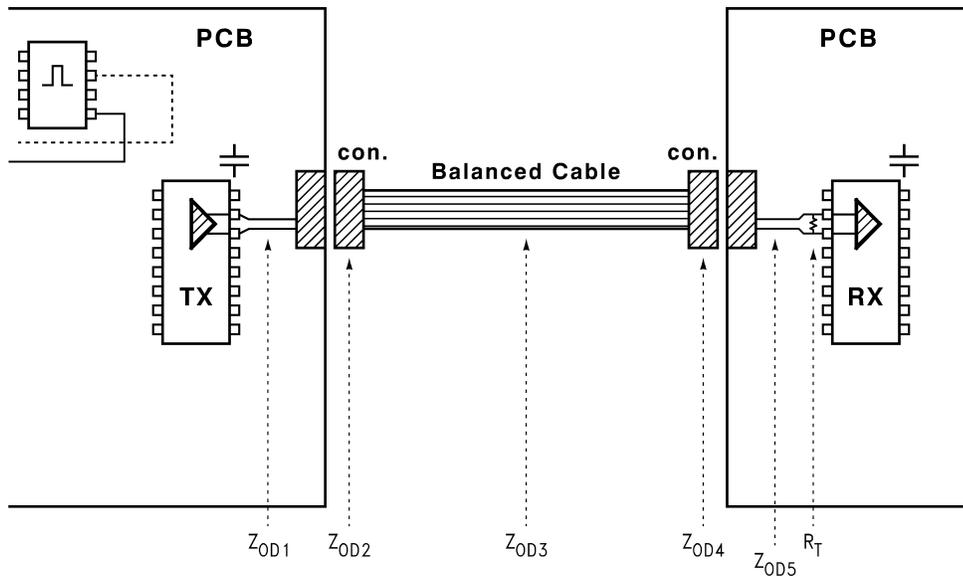

FIGURE 2. TX and RX Location
The transmitter should be located as close to the interface as possible (see *Figure 2*). This is done to minimize the PCB LVDS overall trace length (see following section on differential traces) and thus skew as well. Skew is generally proportional to length, thus a shorter interconnect nominally has less skew associated with it. If the TX is located within 2 inches of the connector, mitering (trace length compensation
Microstrip traces (outside layer) are usually employed for this interconnect. The microstrip geometry and the fact that the traces are on the outer layer enable higher impedances more easily. It is also possible to design the interconnect without any via, thus a better signaling environment. On the down side, stripline (embedded) traces offer greater shielding due to their encasement. Either microstrip or stripline traces can be used, as long as they are matched to the cable's differential-mode characteristic impedance. This is shown in *Figure 2* where  $Z_{OD1}$  represents the TX PCB impedance and  $Z_{OD3}$  is the cable (interconnect) impedance. It is recommended that all impedances should be within 10% of the target impedance (typically  $100\Omega$ ) to minimize any reflections. Note that a 10% difference in impedance will create a reflection of 5%. Reducing the magnitude of reflections will lower the EMI of the system.
**Note:** The complete interconnect between the TX output and the RX input is a high speed transmission line. Driver edge rates are in the 300 ps–700 ps range. The TX PCB traces, connectors, cable media, and RX PCB traces are all part of the system. Their impedances should be matched within 10% to maintain signal quality and generate the lowest amount of emissions. There are 4–6 impedances to consider, depending upon the application (the size of the connector). These are shown in Figure 2 as  $Z_{OD1}$ ,  $Z_{OD2}$ ,  $Z_{OD3}$ ,  $Z_{OD4}$ ,  $Z_{OD5}$ , and  $R_T$ . Also, minimize extra transitions (board or layer transitions, etc.) here to make this total interconnect as clean as possible.
The receiver should be located close to the interface connector as shown in Figure 2. This is done to minimize the PCB LVDS trace length. (See the section on differential traces.) It is not a requirement of the RX device to be located adjacent to the timing controller. The connection between the timing controller and the RX should be designed such that the parallel RGB traces are of equal length to avoid skew and a resulting set-up or hold violation at the timing controller input pins.